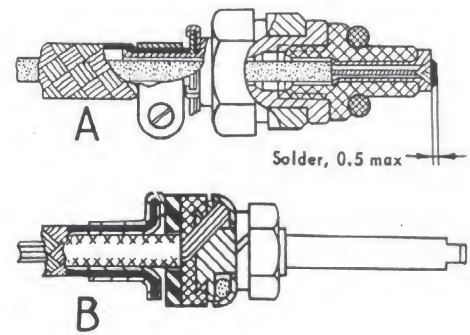

FIG. 91. WIRE TERMINATION
4. The low-tension wires of the ignition coil should be terminated as shown in Fig. 91, A.
5. Termination of wires in the connectors of the generator, distributor, radio interference filters should be performed as shown in Fig. 91, B.